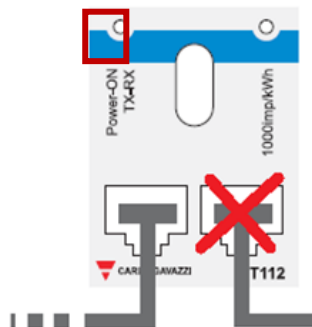

Figure 8 - Wattmeter led light indication
- Check that the indicator light indicated in Figure 8 on the side is flashing intermittently.